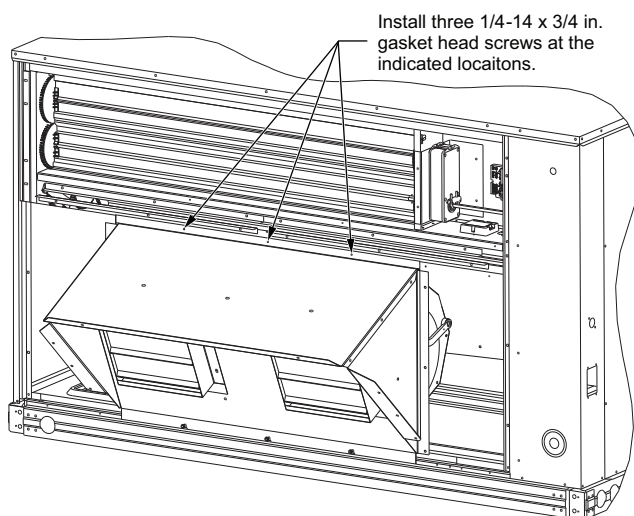
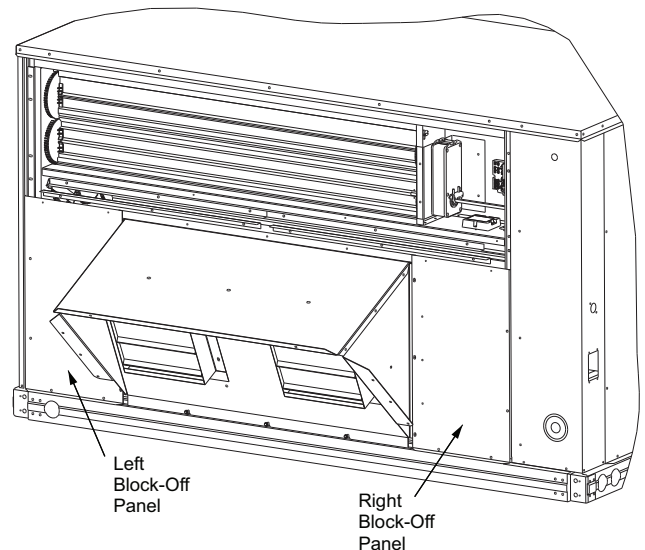

Fig. 12 — Install Power Exhaust Fan Assembly on Vertical Return Air Applications
Fig. 13 — Power Exhaust Block-Off Panels Installed for Vertical Return Air Applications
4. Place power exhaust fan assembly on lower flange of power exhaust opening as shown in Fig. 12. Make sure that all three screws line up in the slots in the power exhaust bottom flange.
NOTE: Figures 12 and 13 are shown with the economizer hood removed to provide a clear view of the flange at the top of the power exhaust fan assembly (Fig. 12) and the tops of the block off panels (Fig. 13).
5. Install three 1/4-14 x 3/4 in. gasket head screws (AL31AZ308) in the three locations at the top flange of the power exhaust fan assembly. (See Fig. 12.)
6. Tighten the three screws at the bottom of the power exhaust fan assembly, installed in Step 3 above. (See Fig. 12.)
7. Install the left block-off panel with two No. 10 x 5/8 in. serrated head screws (AL48M217) at the bottom edge. Make sure the top edge of left block-off panel is behind the flange of the upper economizer panel. Install three 1/4-14 x 3/4 in. gasket head screws (AL31AZ308) to secure the left block-off panel to the flange on the power exhaust fan assembly. Install four No.10 x 7/8 in. gasket head screws (AL31AZ219) to secure the left block-off plate to the unit corner post and the upper economizer panel. (See Fig. 13.)
13. Install the right block-off panel with two No. 10 x 5/8 in. serrated head screws (AL48AM217) at the bottom edge. Make sure the top edge of the right block-off panel is behind the flange of the upper economizer panel. Install three 1/4 -14 x 3/4 in. gasket head screws (AL31AZ308) to secure the right block-off panel to the flange of the power exhaust fan assembly. Install four No. 10 x 7/8 in. gasket head screws (AL31AZ219) to secure the right block-off panel to the unit corner post and upper economizer panel. (See Fig. 13.)
14. Install six 1/4-14 x 3/4 in. gasket head screws (AL31AZ308) in three holes in the left and right side block-off panels to prevent water leakage into the unit. These holes are for mounting the power exhaust in the shipping position but are not needed for accessory power exhaust applications. (See Fig. 13.)